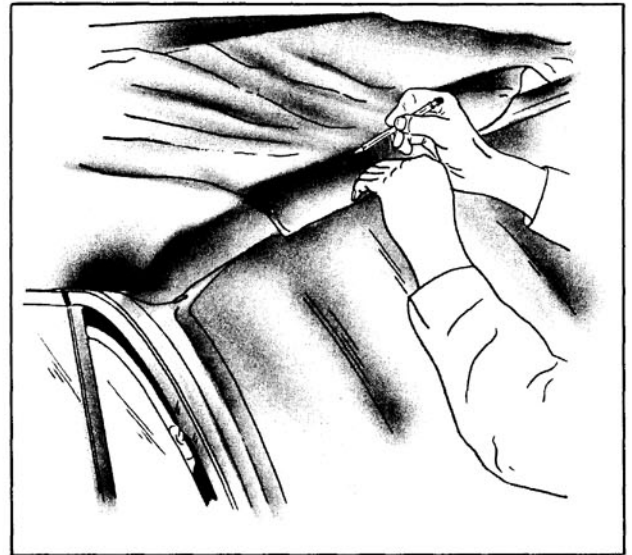

Fig. 16-452 Marking at Front Roof Rail
48. At front roof rail, pull top trim material forward to desired tension. While maintaining tension on top trim, place a pencil mark on outer surface of trim material along forward edge of front roof rail. (Fig. 16-452)
28. At front roof rail, pull top trim material forward to desired tension. While maintaining tension on top trim, place a pencil mark on outer surface of trim material along forward edge of front roof rail. (Fig. 16-452)